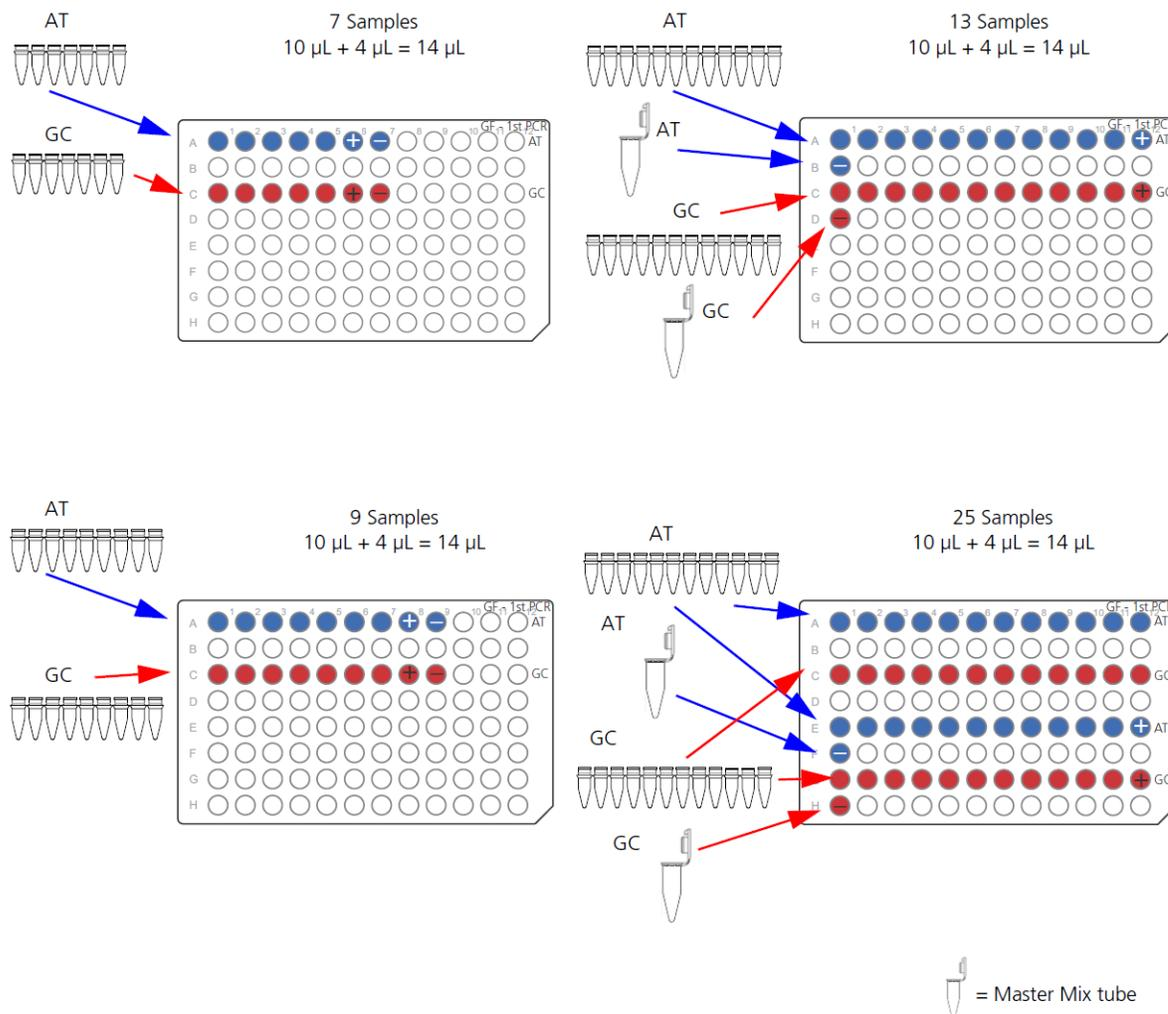

Figure 10 Adding the AT Master Mix and the GC Master Mix to the 1st PCR Plate.
Use a multichannel P20 pipette to transfer 4.0 µL of AT Master Mix to the **1st PCR Plate** AT channel (Figure 10).
1. Use a multichannel P20 pipette to transfer 4.0 µL of GC Master Mix to the **1st PCR Plate** GC channel. (Figure 10.)